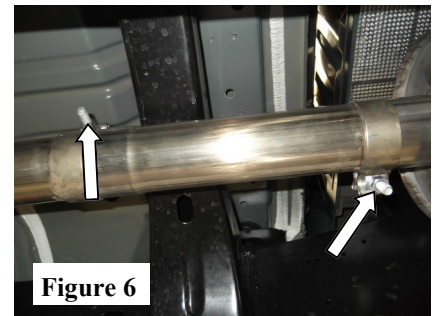

Figure 6
2. **FOR 140" WHEEL BASE ONLY:** Place a clamp over the expanded end of (60570) **Extension Pipe Assembly** and insert to **Front Pipe Assembly**. (See Fig. 6) Do not tighten the clamp.